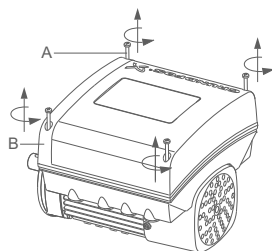

Fig. 14 Removing the terminal box cover
1. Loosen the four screws (fig. 14, A) and remove the terminal box cover (fig. 14, B).
11. Fit the terminal box cover (fig. 14, B) and cross-tighten the four mounting screws (fig. 14, A) to 6 Nm.